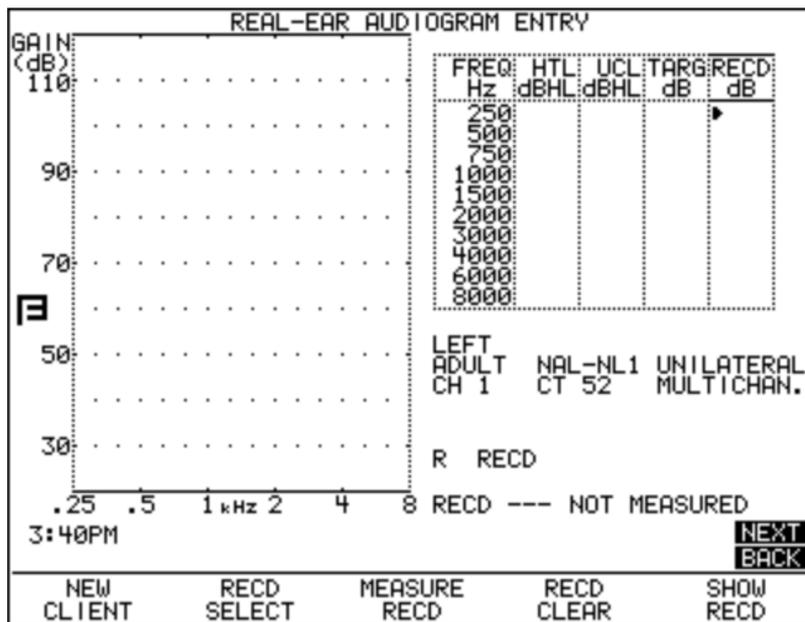

Figure 3: Audiogram Entry – RECD.
1. Press [F2] from the Opening Screen to enter the Audiogram Entry screen. If the Audiogram Entry screen is not displayed, press the [NEXT] button until it appears. *See Figure 3.*
2. Use [F2] repeatedly until RECD SELECT is displayed, as shown in *Figure 3.*